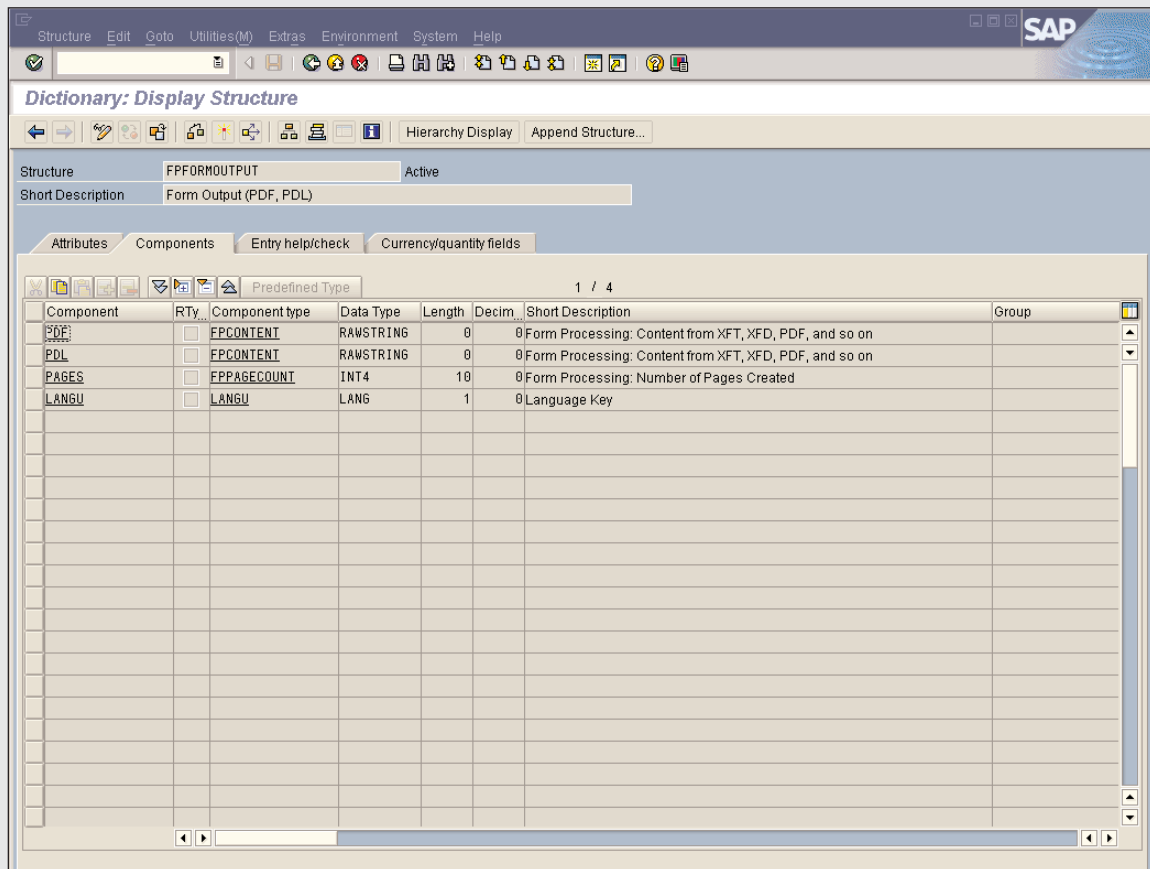

Figure 9 Specifying export parameters
- Under Export, you see the standard parameter /1BCDWB/FORMOUTPUT of the generated function module. One way to use this parameter in your application program is to make the generated form available as a PDF for further processing by sending a copy of an invoice by email or archiving the form in PDF format. To see the export parameters, as shown in **Figure 9**, double-click on FPFORMOUTPUT.